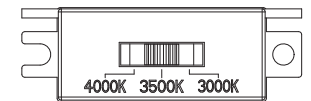

Fig. 2 Wiring
CONNECTING THE WIRES (Fig. 2)
10. Connect the driver's input wires to junction box wires as shown in Fig. 2 using wire connectors (A), make sure that all wire connectors are secured.